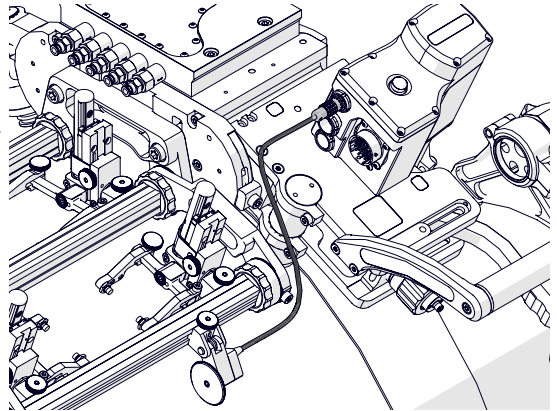

Fig. 78 - Cable routing
4. Plug the cable connector into the ENC IN socket (Fig. 78) on the motor can (see "Motor Can Connections" on page 39).